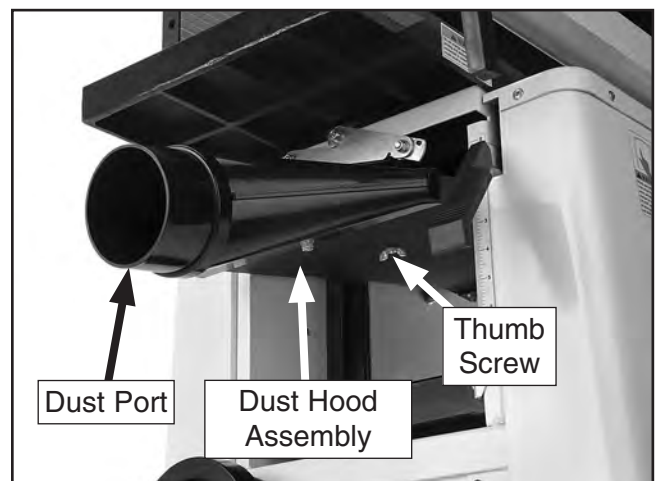

Figure 13. Installing dust port.
4. Loosen the thumb screw on the dust hood assembly, insert the dust port into the dust hood assembly, then tighten the thumb screw (see **Figure 13**). Make sure the fingers on the dust hood slide all the way into the grooves on the port.